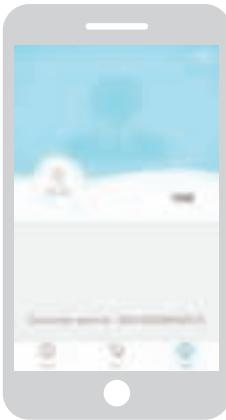

Figure 4 - Me
- 6 Me: Displays your profile, see Figure 4. Tap the cogwheel to go to Settings.
Tap the cogwheel in the upper right corner of the "Me" screen to open "Settings", see Figure 4 and 5. In "Settings" you can: